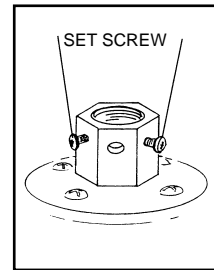

Fig.6
**Step 2.** Loosen the two set screws in the top coupling of the top housing assembly. (Fig. 6)